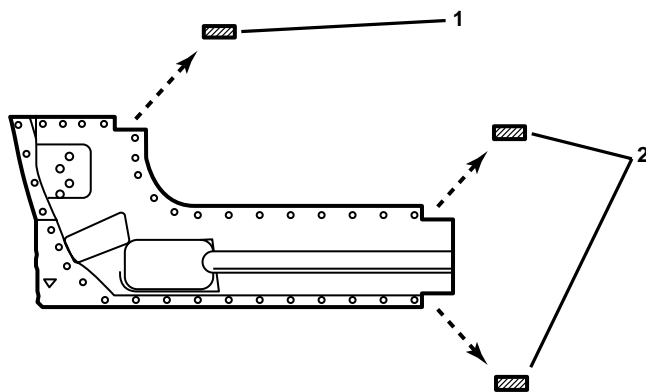

Fig. 1-13 — 2000 DeVille Inner Front Pillar Service Part
2. Notch the panel on the door weather-strip flange (1) to prevent excessive metal thickness in this area (Fig. 1-13).
3. In rocker area, locate and mark a cut line in the recommended sectioning area. Allow for a 50 mm (2 in) overlap to the vehicle sectioning areas (Fig. 1-13).
5. Notch upper and lower edges of service part (2) to prevent excessive metal thickness in this area (Fig. 1-13).